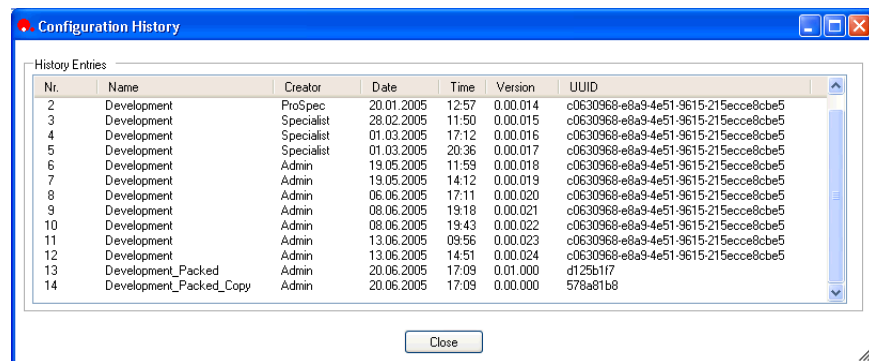

Fig. 13-5 Configuration history, example
- 1 If necessary, consult the history data about the available configurations. Refer to Fig. 13-5 "Configuration history, example", 13-7.